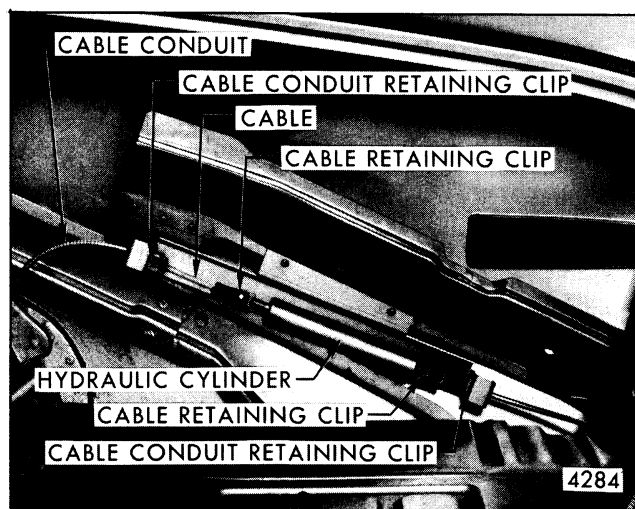
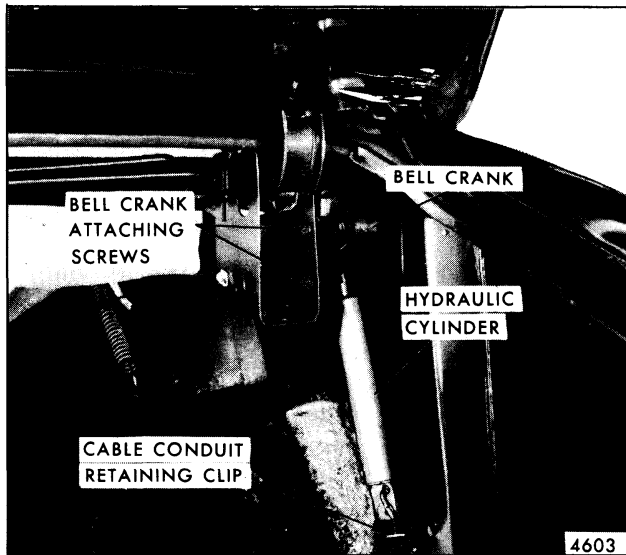
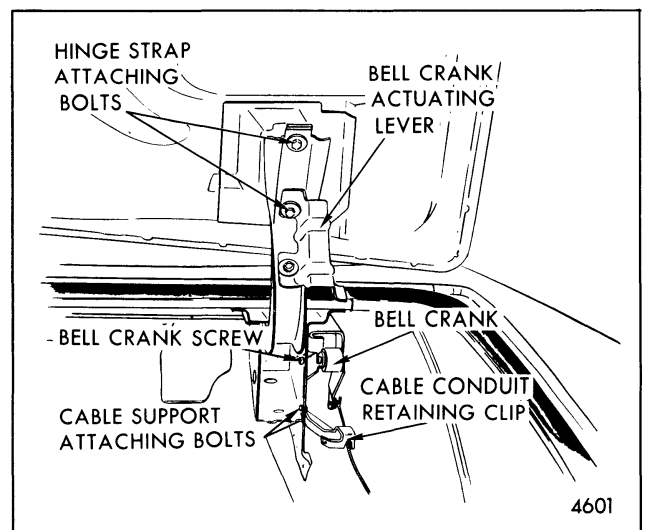

Fig. 7-17-Mechanical Pull-Down Unit Hydraulic Cylinder - Cadillac "C" Styles
Fig. 7-18-Mechanical Pull-Down Unit Hydraulic Cylinder - Cadillac "E" Styles
Fig. 7-19-Mechanical Pull-Down Unit Hydraulic Cylinder Cable Attachment - Cadillac Styles
A hydraulic cylinder (Fig. 7-17 for "C" styles and Fig. 7-18 for "E" styles) is incorporated in the mechanism to achieve a slow, uniform closing action. On "C" styles the cylinder (Fig. 7-17) is attached to a bell crank at the right rear compartment lid hinge and to the closing unit by a cable (Figs. 7-19 and 7-16). On "E" styles, one end of the cylinder is attached to the bell crank at the right rear compartment lid hinge and to the closing unit by a cable (Figs. 7-18 and 7-16). When the rear compartment lid is lowered to a point where the lock engages with the striker (approximately 7/8" from a fully closed position), a piston forces the fluid through an orifice retarding the closing action of the spring in the hydraulic cylinder. Then, the mechanical closing unit pulls the lid the remaining distance (7/8") to a fully closed position.
**NOTE:** On "C" styles, to disengage cable from bell crank (Fig. 7-19), remove cable conduit support attaching bolts and rotate cable assembly to disengage eye on end of cable from bell crank.
1. On "C" styles, disengage cable to hydraulic cylinder retaining clips at both ends of cylinder (Fig. 7-17) and remove cylinder.
1. Fore-aft and lateral adjustment of the lid assembly is controlled by the hinge strap to lid attaching bolts. To adjust lid, loosen hinge strap to lid attaching bolts (Fig. 7-19) and shift lid to desired position. Then, tighten bolts.
4. With aid of helper, remove attaching bolts securing hinges to lid and remove lid (Fig. 7-19 depicts typical hinge for all styles except "X-17" style).